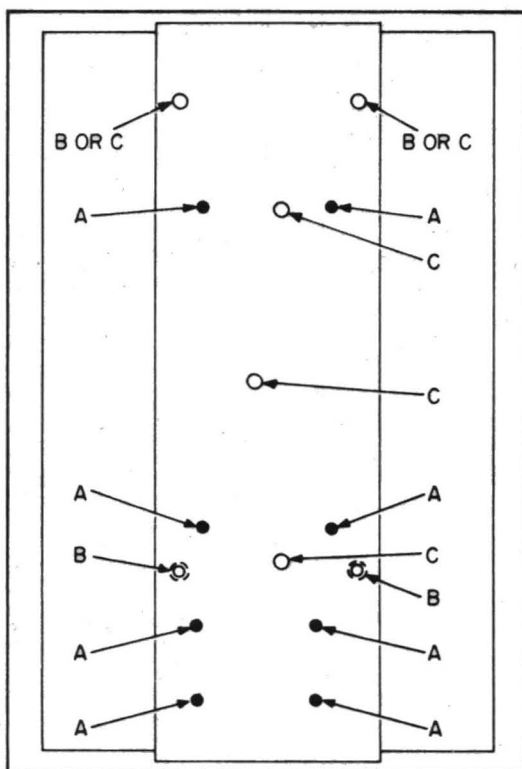

Figure 3. Hole Locations, Rear Panel.
- (9) Remove the cash compartment cover from the panel coin telephone set lower housing.
- (10) Extend the station wires and ground wire into the lower housing through the wire hole located on the back.
- (11) Attach the lower housing to the rear panel of the panel assembly using the eight screws furnished with the panel
coin telephone. Two of the screws were removed from the lower housing in (7) and the other six are packed with the panel assembly in a sack. The holes designated A, in Figure 3, are used for this procedure.
- (12) Connect the red station wire to terminal strip terminal L1 and the green wire to terminal L2 of the terminal block located in the lower housing.
- (13) Ground the panel coin telephone set according to instructions in the 476-200 series of GTE Practices.
- (14) Perform the installation tests described in Part 4.
- (15) Replace the upper housing and cash compartment cover.
- (16) Close the panel assembly door.
- (5) Unlock and remove the panel coin telephone upper housing.
- (6) Remove the 1/4-20 by 1/2 inch mounting screws that secure the coin telephone lower housing to the rear panel. Remove the lower housing and retain the screws.
- (7) Place the rear panel of the panel assembly in position in the enclosure and extend the station wires and ground wire through the wire opening located in the rear panel. Secure the rear panel and consequently the panel assembly to the enclosure by installing five 1/4-20 by 1/2 inch screws through the holes in the rear panel (marked C in Figure 3) into the rear of the enclosure.
- (8) Remove the cash compartment cover from the panel coin telephone lower housing.
- (9) Attach the lower housing of the panel coin telephone to the rear panel of the panel assembly using the eight 1/4-20 by 1/2 inch screws furnished with the panel coin telephone. Two of the screws were removed from the lower housing in (6), and the other six are packed with the panel assembly in a small sack. The holes marked A in Figure 3 are used for this procedure.